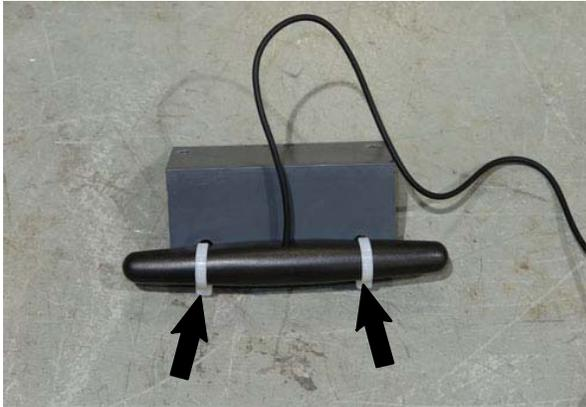

FIG. 6
16. Use two cable ties (17) to install the antenna (6) onto the antenna bracket (18). (Fig. 6)